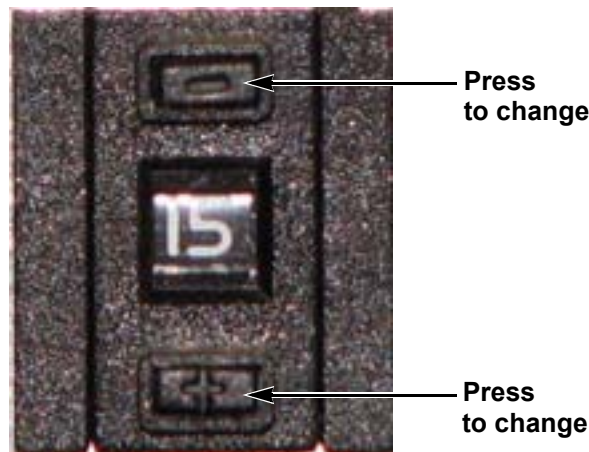

FIGURE 5-3. Mode Select Buttons.
3. Set the mode number at the **MODE SELECT** switch, located at the rear of the MV 4440. See Figure 5-3. Use a pointed object (such as a pen tip) to press the desired button at the **MODE SELECT** switch.
2. Set the mode number with the **MODE SELECT** switch located on the vPOD. See Figure 5-3. Use a pointed object (such as pen tip) to press the desired button at the **MODE SELECT** switch.